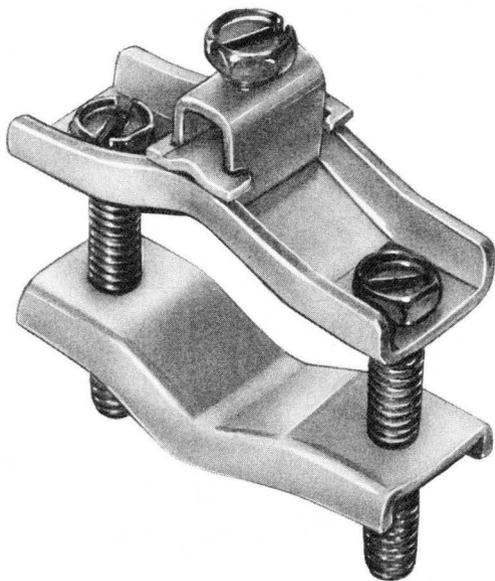

Fig. 65—♦B Ground Clamp♦
6.24 The B ground clamp (Fig. 65) is installed as follows: